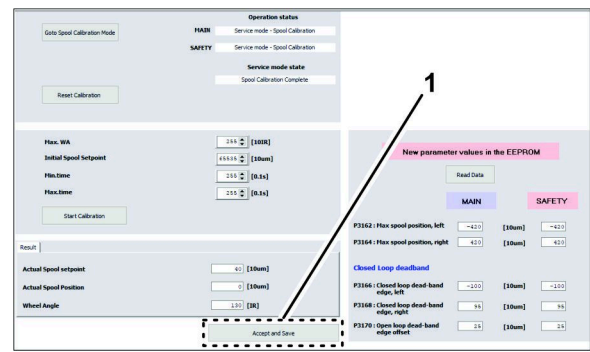

Figure 154
5. At the bottom of the spool calibration screen, click the ACCEPT AND SAVE icon (Figure 154).